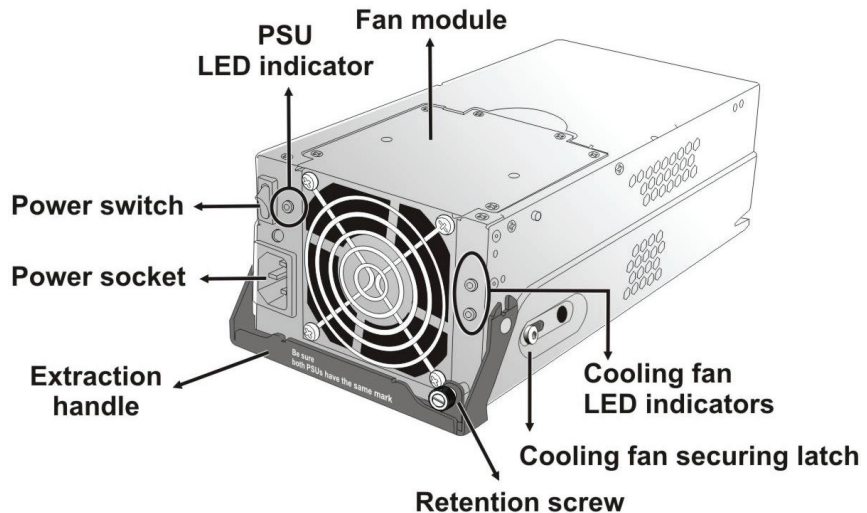

Figure 5-6: PSU Parts Identification
- Step 1.** **Power off the PSU.** The power switch is located on each PSU's rear-facing panel. (See **Figure 5-6**)